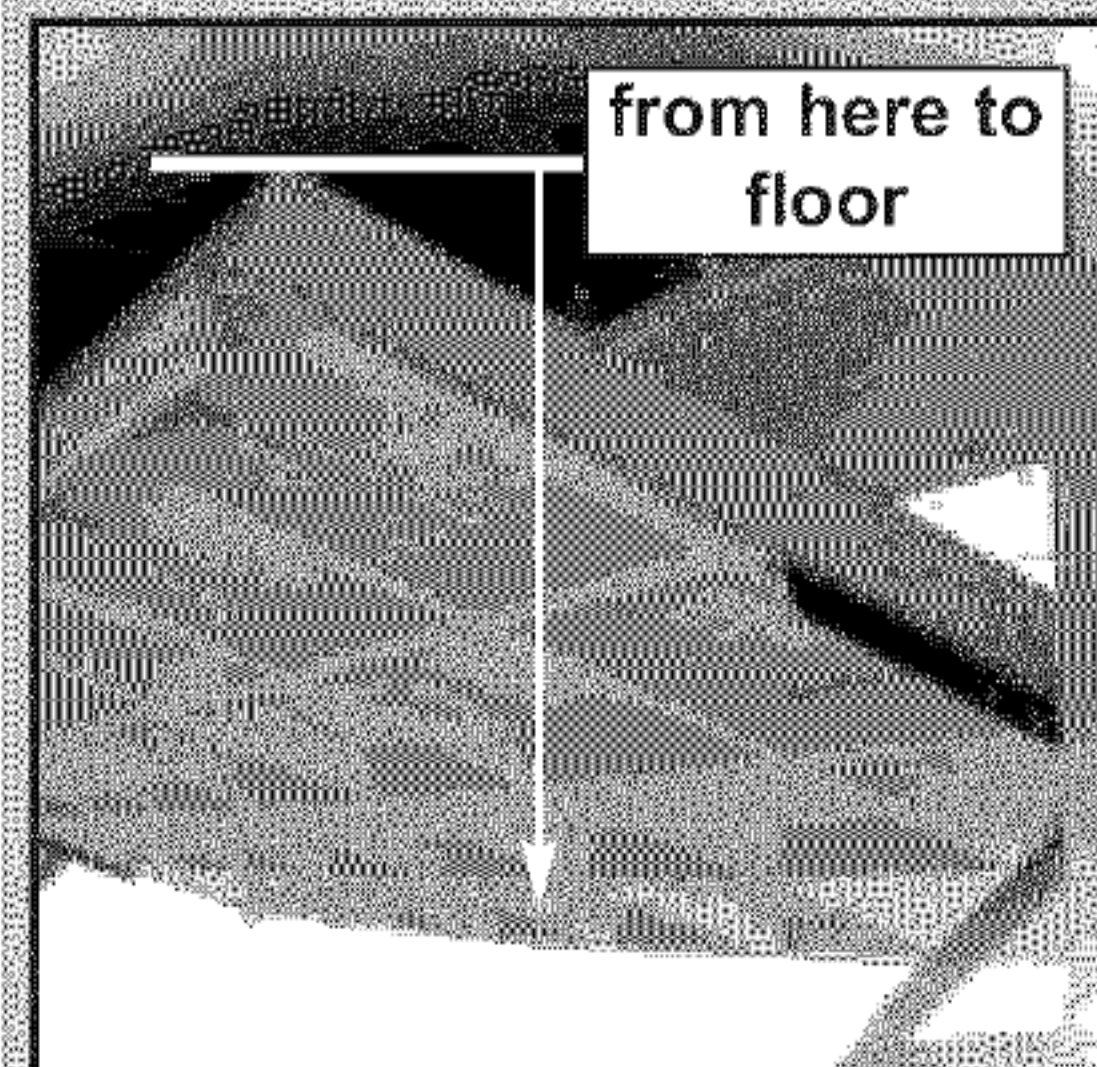

FIG. 2-2 Finding highest point of travel (1-piece)
- Raise garage door until **top edge** of door reaches its maximum height (Fig. 2-2).